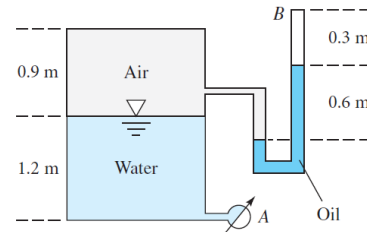

Fig. 2.5
- 2.5 In Fig. 2.5, if pressure gage A reads 140 kPa absolute, find the pressure in the closed air space B . The manometer fluid is Meriamred oil, $SG = 0.827$.